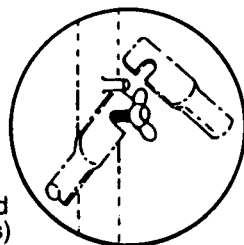

Fig. 1
2. Attach diagonal bracing to frame sections, securing in place with the frame brace locks Fig. 1).